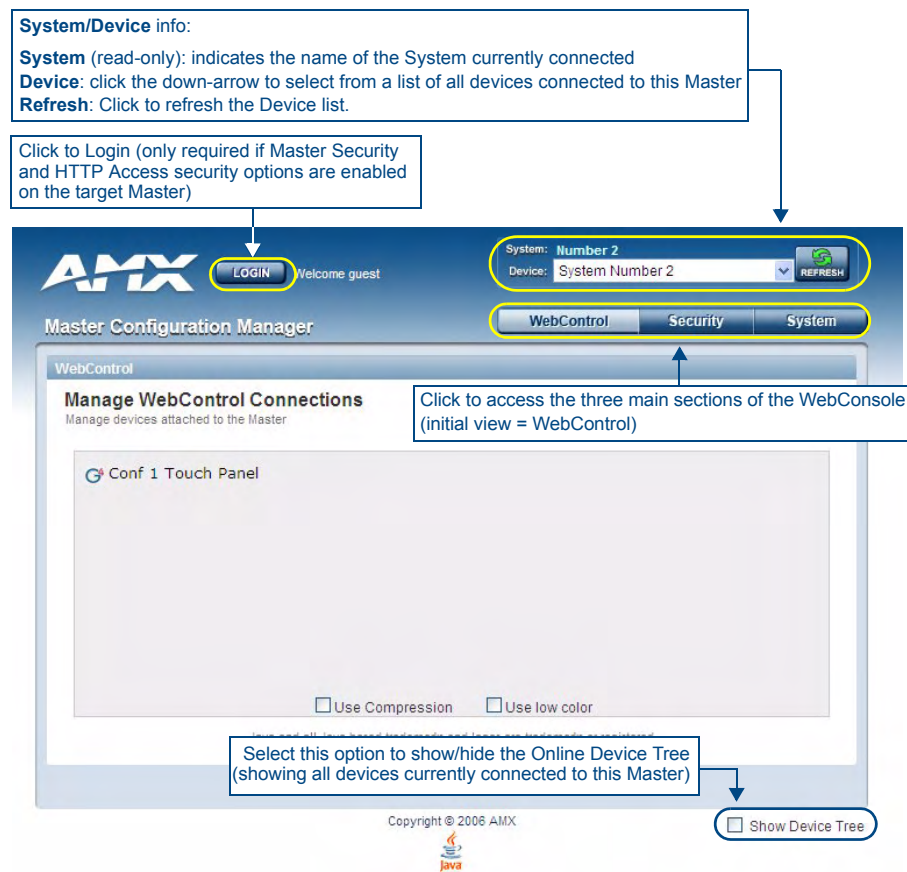

FIG. 11 Master Configuration Manager - WebControl Page (initial view)
NetLinX Masters have a built-in WebConsole that allows you to make various configuration settings via a web browser on any PC that has access to the Master. The webconsole consists of a series of web pages that are collectively called the "Master Configuration Manager" (FIG. 11).
2. Press Enter to access WebConsole for that Master. The initial view is the *WebControl* page (FIG. 11).